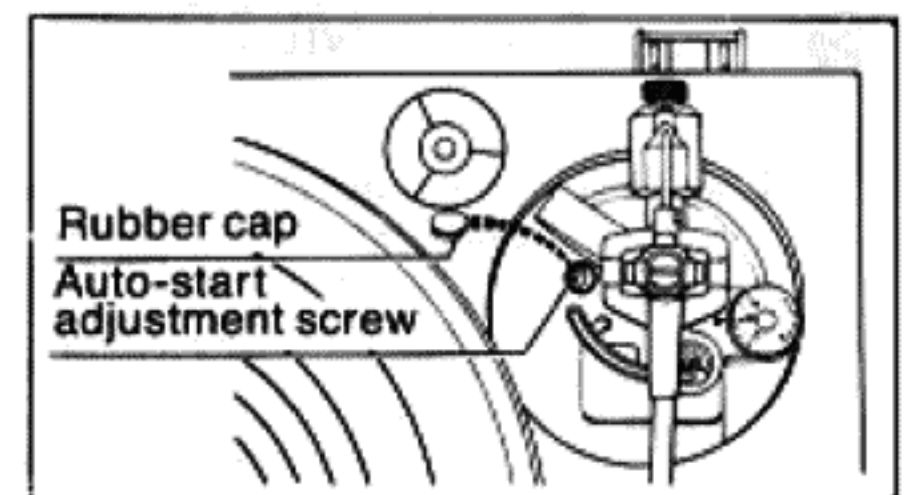
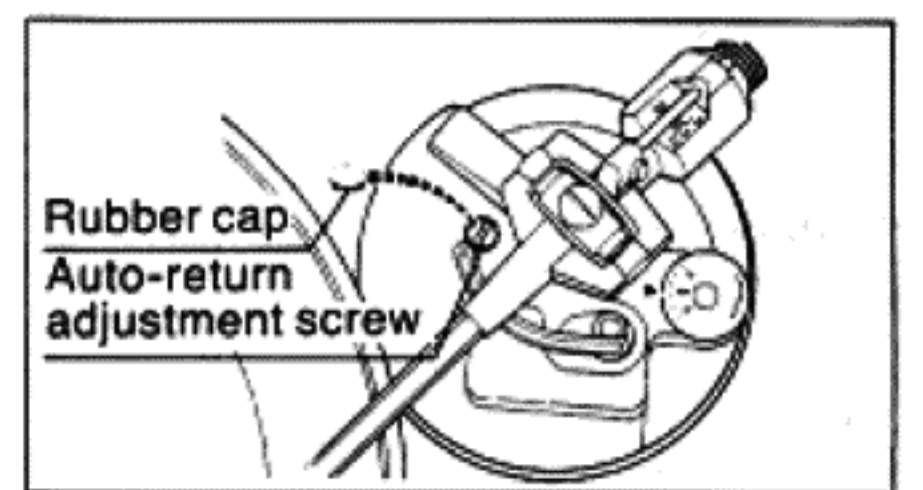

Fig. 15
Fig. 16
When the tonearm is in or near the arm rest the auto-start adjustment screw is visible (Fig. 15); when the tonearm is near the center of a record, the auto-return adjustment screw is visible. (Fig. 16)
2. Remove the rubber cap. (Fig. 15)
● Adjustment of automatic return position (Fig. 16)